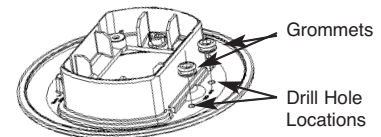

Figure 4
- Optional** low voltage feed-through applications: (See Figure 4)